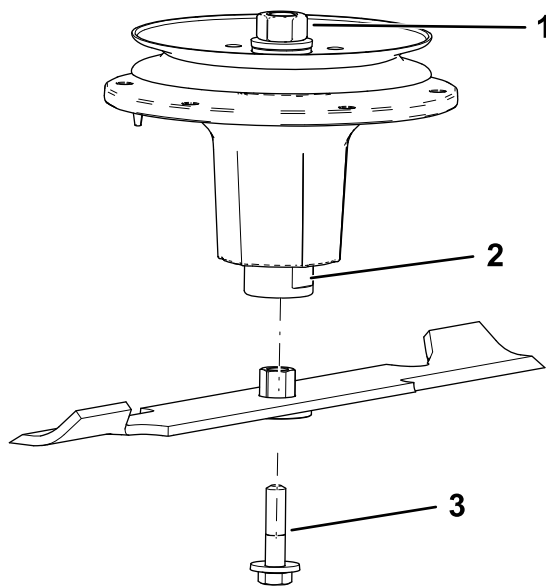

Figure 80
2. Install the bushing/blade assembly into the spindle shaft (Figure 80).